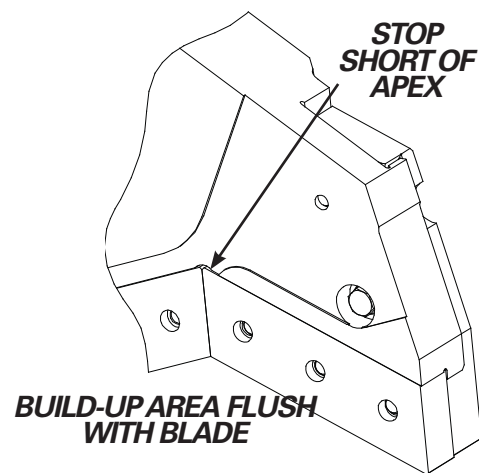

FIGURE 5-20
3. If necessary, build-up along the top and front edges of the secondary blade seat flush with the blade (see figure 5-20). The blade should not stick out beyond the edge of the seat in this area.